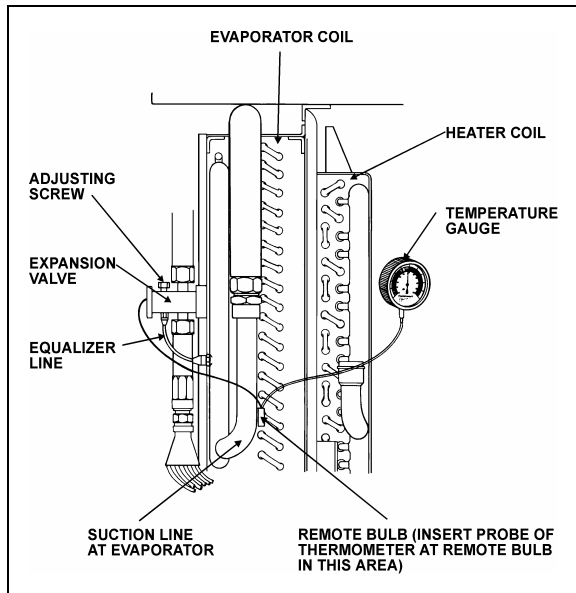

FIGURE 36: SUPERHEAT ADJUSTMENT INSTALLATION22046
The starting method of adjusting the superheat is to unscrew completely the main evaporator expansion valve adjusting screw, then screw in 13 turns clockwise for 134A (Fig. 36). Afterwards, the following procedure should be followed:
3. Install a remote reading thermometer to the evaporator outlet line near the existing remote bulb (Fig. 36).